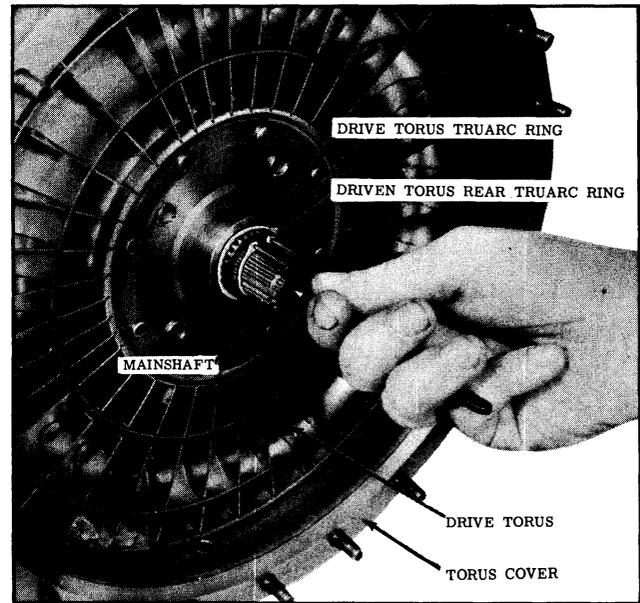

Fig. 3-21 Removing Snap Ring
4. Remove the driven torus rear Tru-arc ring from the mainshaft. (See Fig. 3-21)